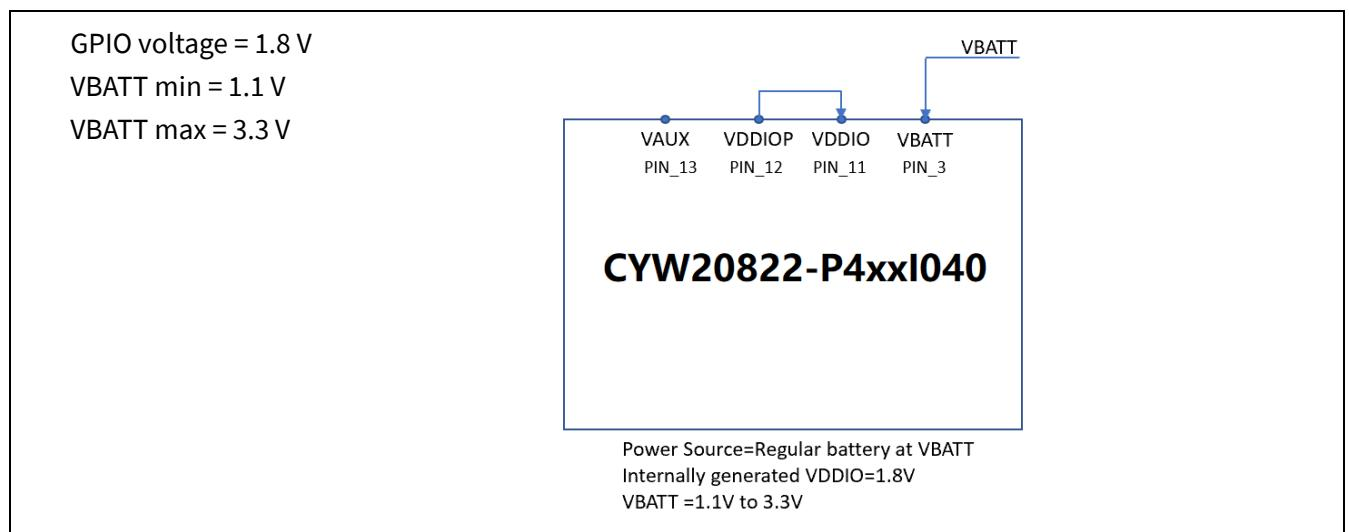

Figure 10 Regular battery, internal I/O supply
- For applications that can use a fixed 1.8 V I/O supply for better power consumption or $VBATT \leq 1.8 V$ (see Figure 10).